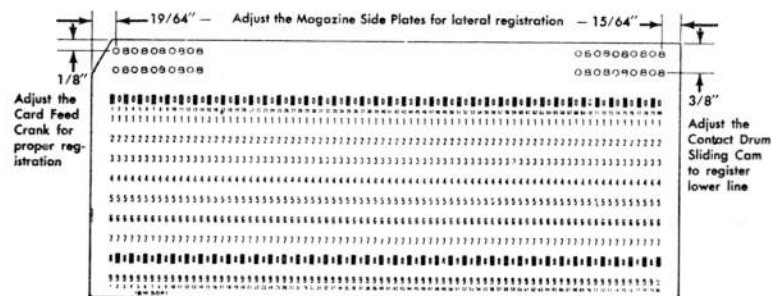

Figure 1. Printing Registration
**Lateral Printing Adjustment.** The printing adjustment is obtained by delivering the card to the printing position in the proper registration. Position the hopper side plates by means of the adjustable bushings so the card is aligned to the print bars to cause printing as shown in Figure 1. There should be a .005"-.008" clearance over the length of the cards.
the leading edge of the card (Figure 1). If the condition of step 3 is met and the printing is off registration, check the contact drum brake.